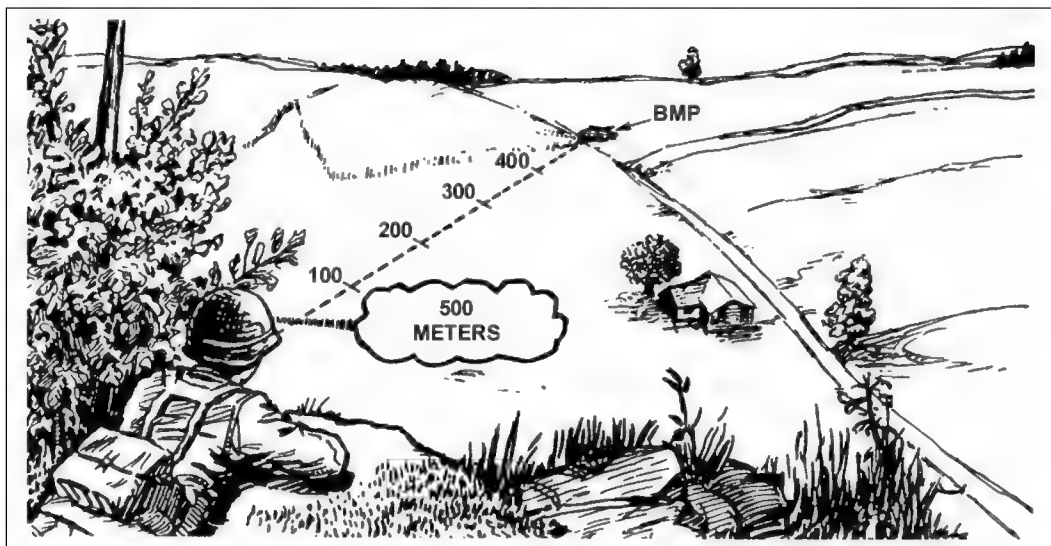
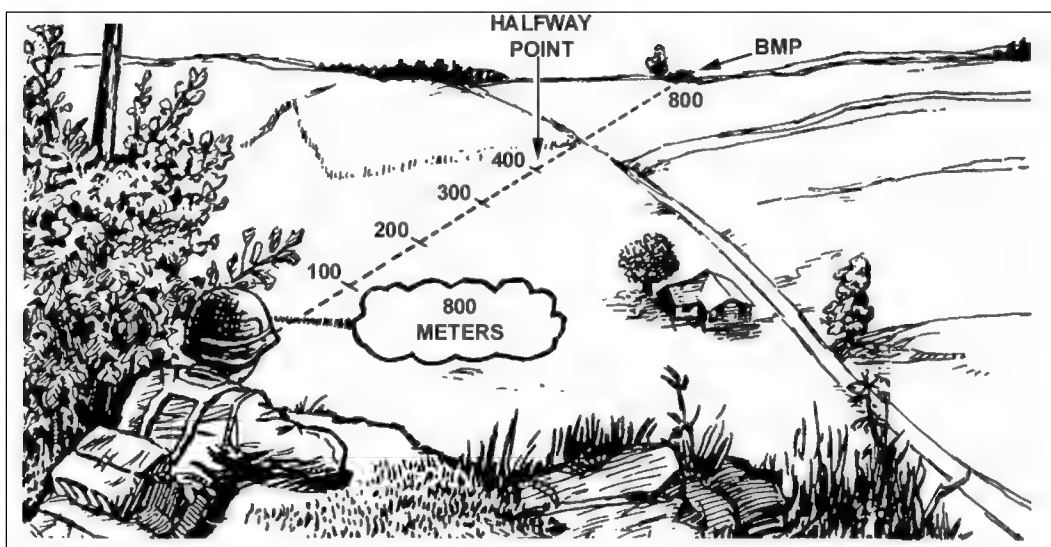

Figure 5-4. Application of the 100-meter unit-of-measure method for ranges up to 500 meters.
Figure 5-5. Application of the 100-meter unit-of-measure method for ranges greater than 500 meters.
- a. Using the 100-meter unit-of-measure method, visualize 100 meters on the ground (this takes practice) and determine how many units of 100 meters there are to the target (Figure 5-4). For targets more than 500 meters (5 units) away, pick a point about halfway, estimate the range to that point, and double it (Figure 5-5).